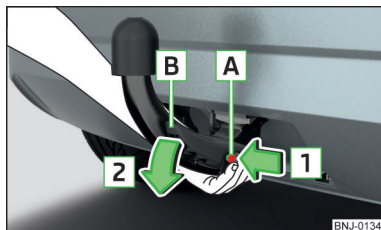

Fig. 139
- Grasp the ball head from **underneath** » Fig. 139.